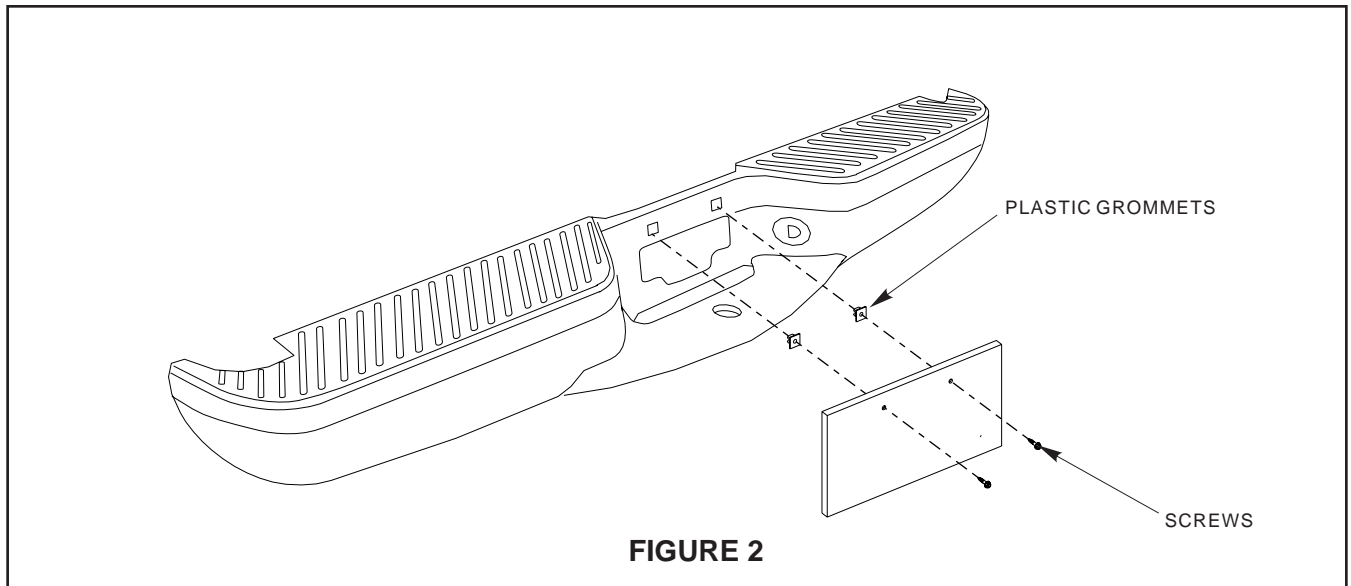

FIGURE 2
- STEP 3.** Hand tighten (1) 1/2-13 nut onto each bolt. Use a 3/4" open end wrench to prevent each bolt from rotating while tightening each nut.
- STEP 5.** Use square plastic grommets and screws to install license plate (See Figure 2).